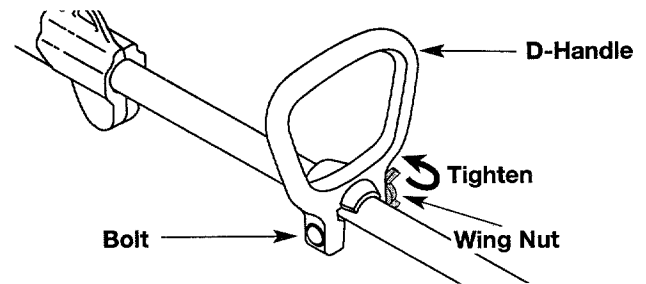

Figure 3
4. Tighten the wing nut until the D-Handle is secure. See Figure 3.